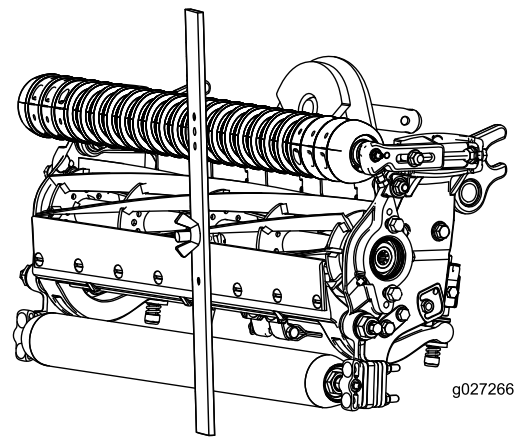

Figure 17
4. Hook the screw head on the cutting edge of the bedknife and rest the rear end of the bar on the rear roller (Figure 17).
5. Rotate the adjusting screw until the front roller contacts the gauge bar (Figure 17). Adjust both ends of the roller until the entire roller is parallel to the bedknife.